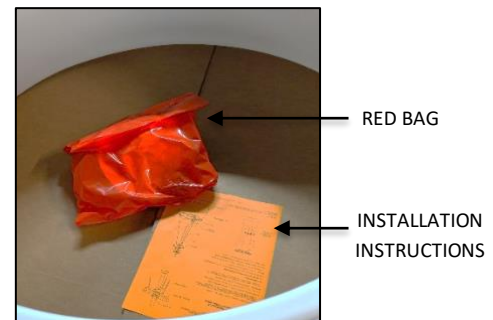

FIG.6 RED BAG AND
3. INSTALLATION INSTRUCTIONS (shown in FIG. 6) - Please completely read the install instructions before starting installation.
4. RED BAG (shown in FIG. 6) contains below following items: